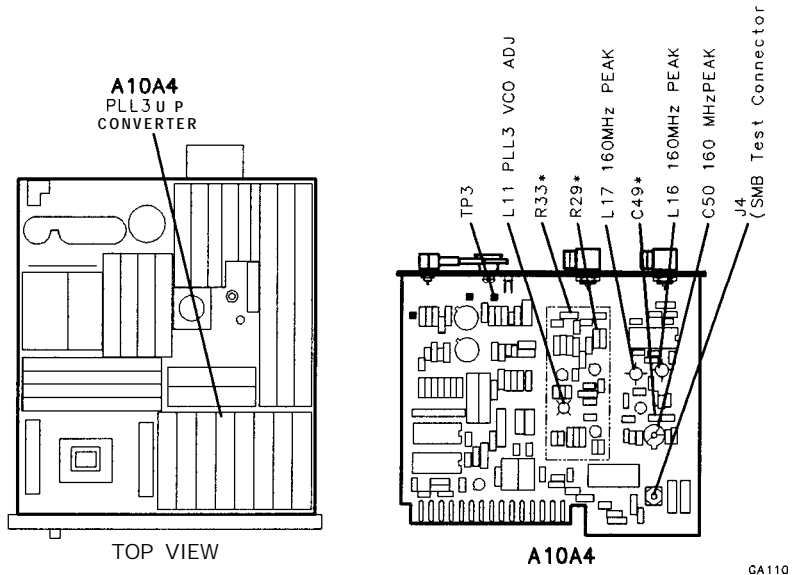

Figure 3-80. Location of PLL3 Adjustments
2. Connect the RF INPUT of the second spectrum analyzer to SMB test connector A10A4J4. Refer to Figure 3-80 for the location of test connector A10A4J4.
6. Adjust A10A4L16 160 MHz PEAK and A10A4L17 160 MHz PEAK to maximize the amplitude of the 160 MHz signal displayed on the second spectrum analyzer. The two adjustments are interactive; repeat the adjustment as necessary to ensure maximum signal amplitude. Refer to Figure 3-80 for the location of A10A4L16 160 MHz PEAK and A10A4L17 160 MHz PEAK adjustments.
7. Adjust A10A4C50 160 MHz PEAK to maximize the amplitude of the 160 MHz signal displayed on the second spectrum analyzer. If after adjustment A10A4C50 is completely open, select a lower value for factory-selected component A10A4C49; conversely, if after adjustment A10A4C50 is completely closed, select a higher value for factory-selected component A10A4C49. Refer to Table 3-12 for the acceptable range of values and corresponding HP part numbers for A10A4C49, and to Figure 3-80 for the location of A10A4C50 160 MHz PEAK and A10A4C49.
11. Disconnect the second spectrum analyzer from SMB test connector A10A4J4. Connect the second spectrum analyzer to A10A4J2 OUT 160 – 166 MHz. Connect the DVM to A10A4TP3. Refer to Figure 3-80 for the location of A10A4TP3.